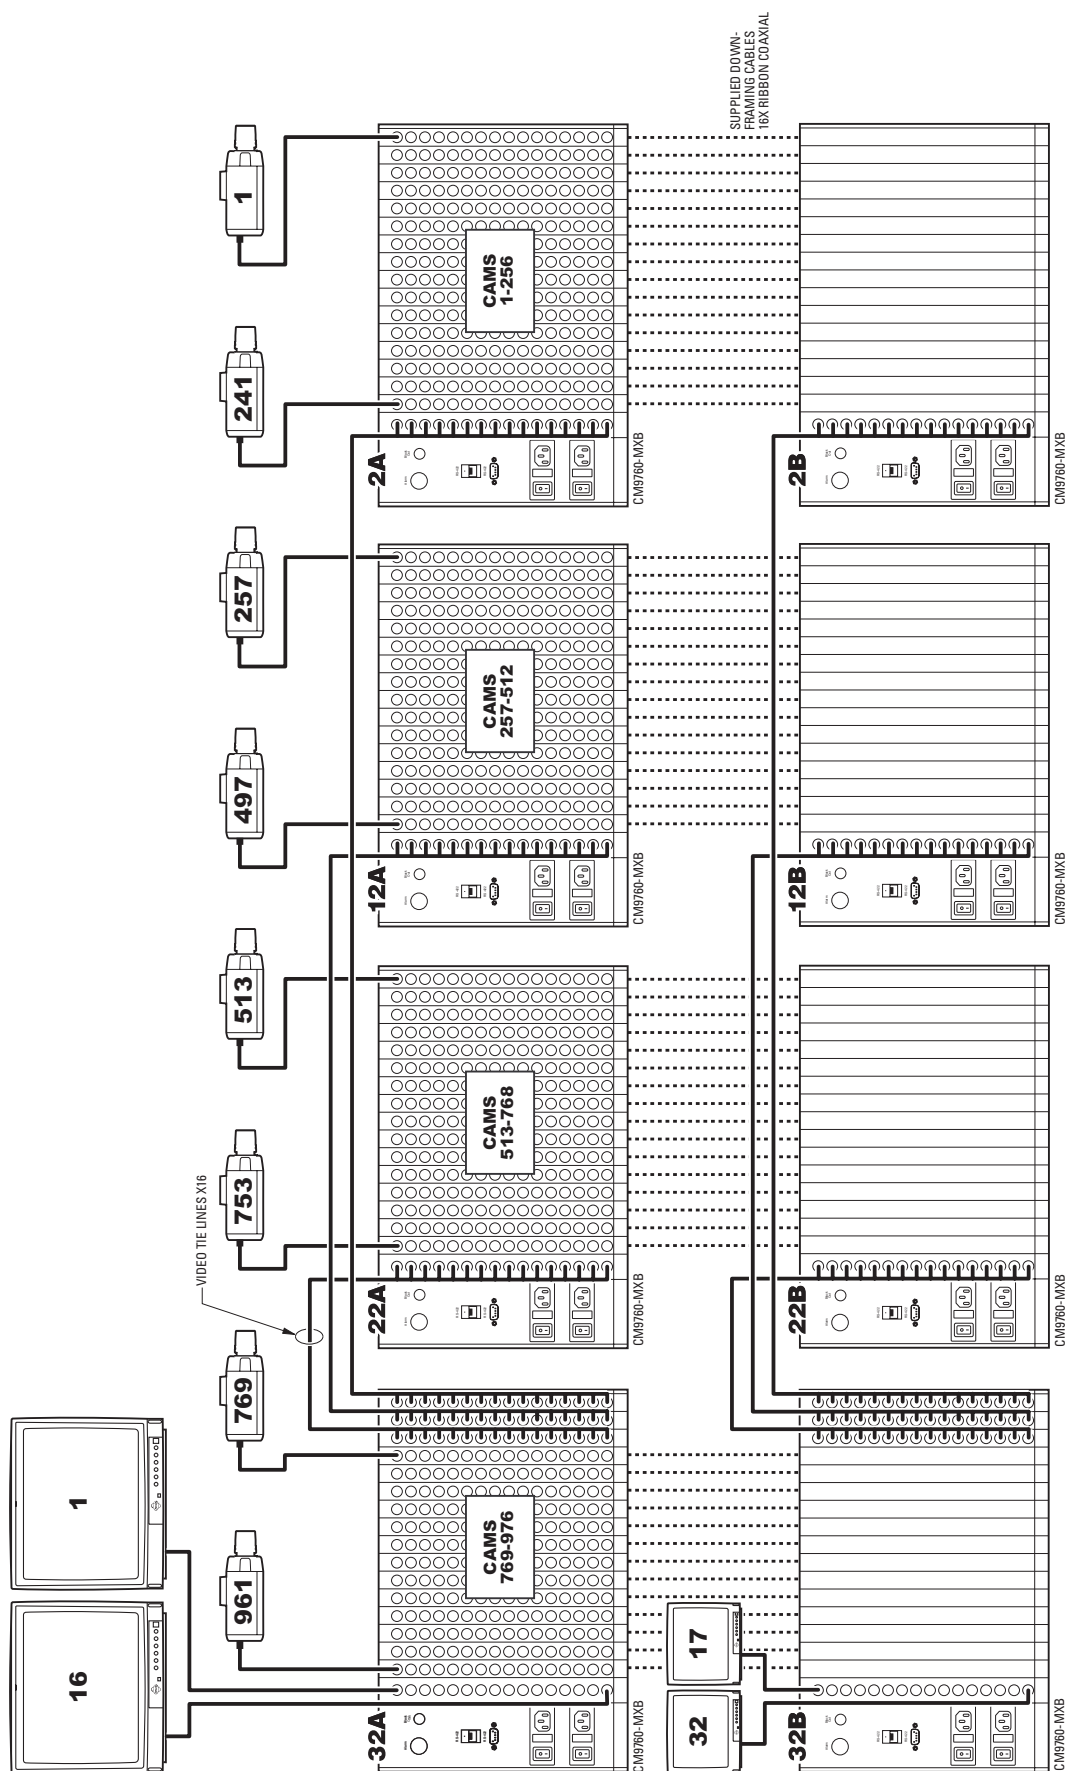

Figure 79. Sideframing and Downframing: 976 x 32 Configuration
- 976 x 32 (refer to Figure 79)